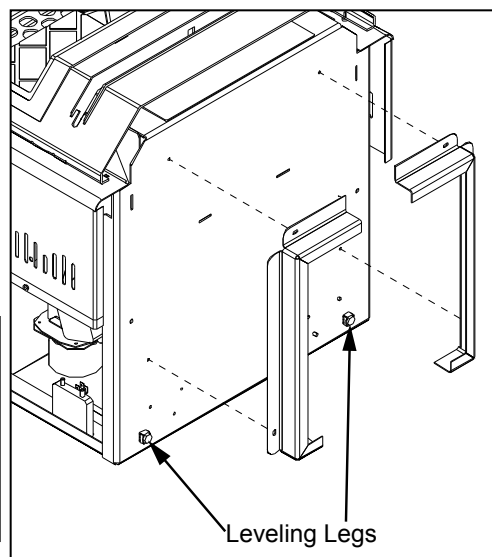

Figure 13: Installing Pedestal.
There are two parts to the Meridian insert pedestal and they can be found inside the hopper. Place unit on its back. Two (2) hex head screws are used on each side of the pedestal (refer to Figure 13). Using a $\frac{5}{16}$ " wrench or socket attach the pedestal to the bottom of the unit.